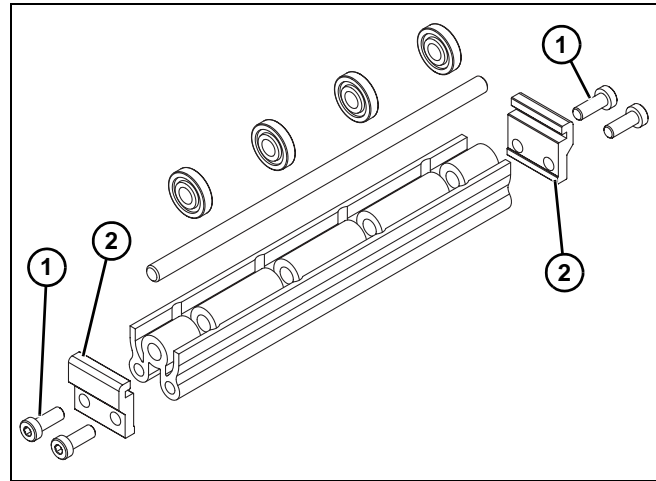

Figure 20
1. Locate return rollers. Exploded view shown in Figure 20.
2. Remove screws (Figure 20, item 1) and clips (Figure 20, item 2) from roller assembly.